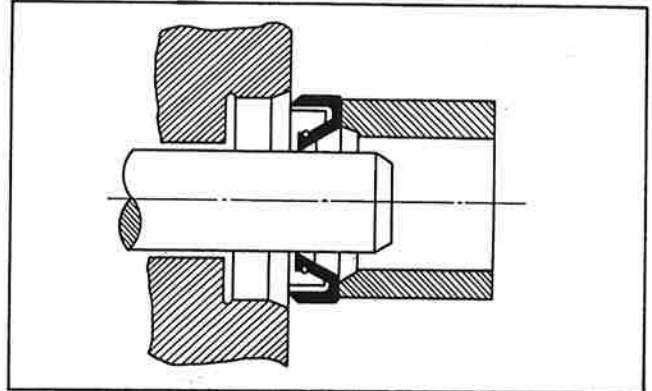

Fig. 3-3-39
- b. Check oil seal lips for damage & wear. Replace as required. (Fig. 3-3-39)